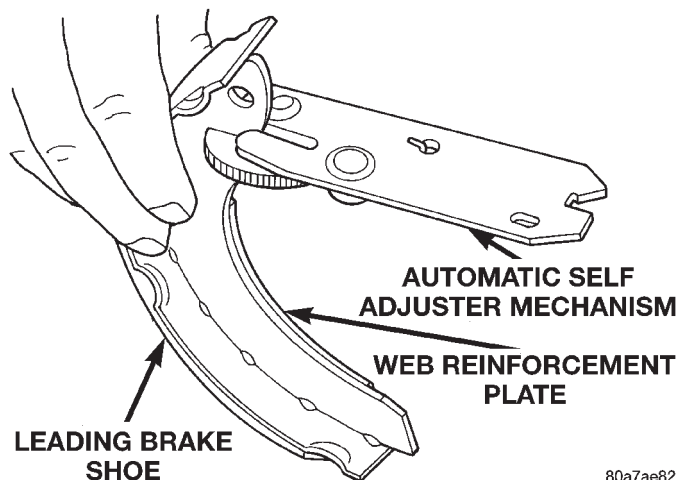

Fig. 74 Adjuster Mechanism Correctly Installed On Correct Leading Brake Shoe
(4) Install the automatic self adjuster mechanism on the correct leading brake shoe assembly using the reverse procedure as indicated in step Step 14 of the brake shoe removal procedure. Refer to (Fig. 74) for the correct installation of the adjuster mechanism on the leading brake shoe.